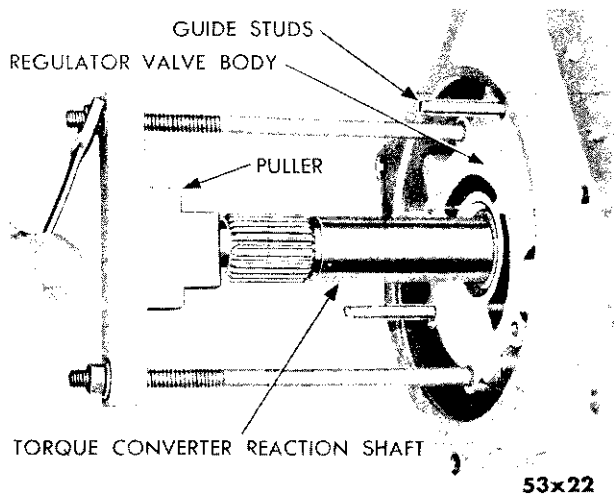

Fig. 32—Removing Regulator Valve Body—
(1) If regulator valve body cannot be removed by installing guide studs, Tool C-3283, in tapped holes in body (and pulling outward with the hands, as shown in Figure 32) use the two threaded holes provided in the regulator valve body to attach puller, Tool C-3287, and install (if removed) guide studs, Tool C-3288 (Fig. 32).
(2) Pull regulator valve body from torque converter reaction shaft and discard the gasket. Handle the regulator valve body carefully.